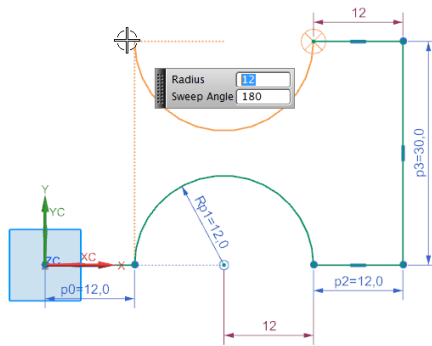

Figure 2-61 Horizontal and vertical help lines displayed to define the endpoint of the arc
13. Move the cursor over the lower arc once and then move it toward the left, refer to Figure 2-61.
A horizontal help line is displayed originating from the center of the arc being drawn. At the point where the cursor is vertically in line with the start point of the lower arc, a vertical help line appears from the start point of the lower arc, refer to Figure 2-61.